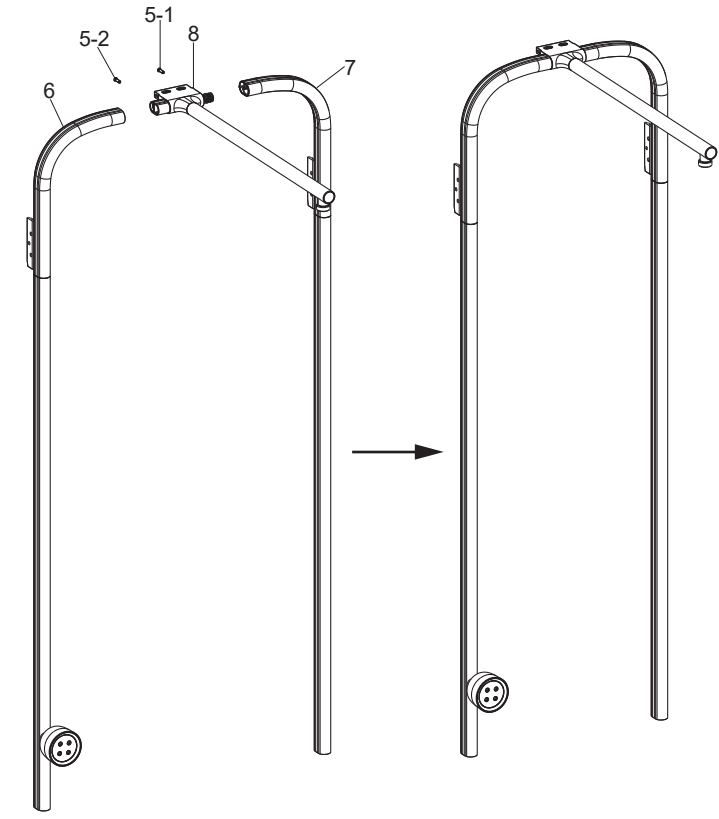

Fig.1
1. As Fig.1 shown, connect the left and right shower columns(6, 7) and middle shower column(8) with two screws(5-1, 5-2) by 2mm hex wrench(40) or 2.5mm hex wrench(41).